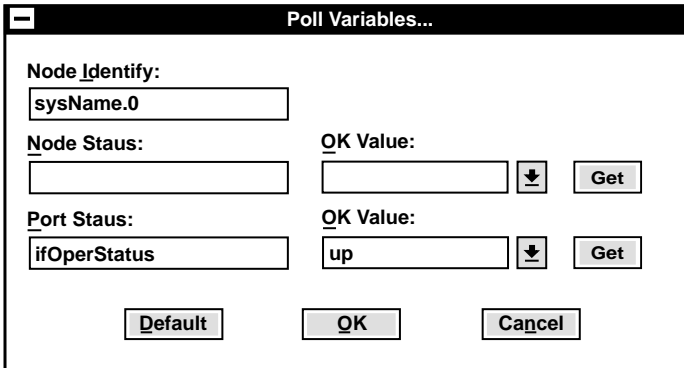

Figure 4-14. Poll Variables Window.
- Poll Vars—When you select Poll Vars, the Poll Variables window appears. Set the NODE IDENTIFY object to sysName.0 (Figure 4-14).